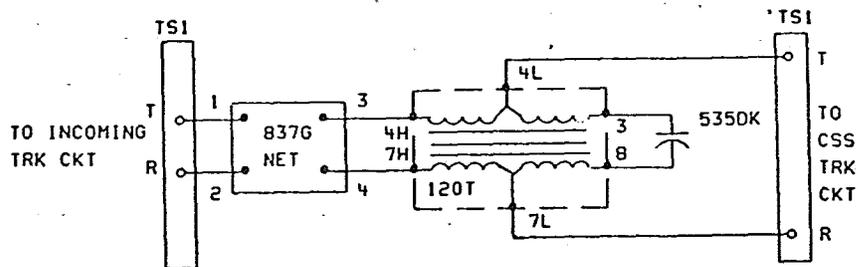

FIGURE 3
- 3.22 Make connections from each 837G Network to 120T Transformer as follows. Refer to Figure 3.